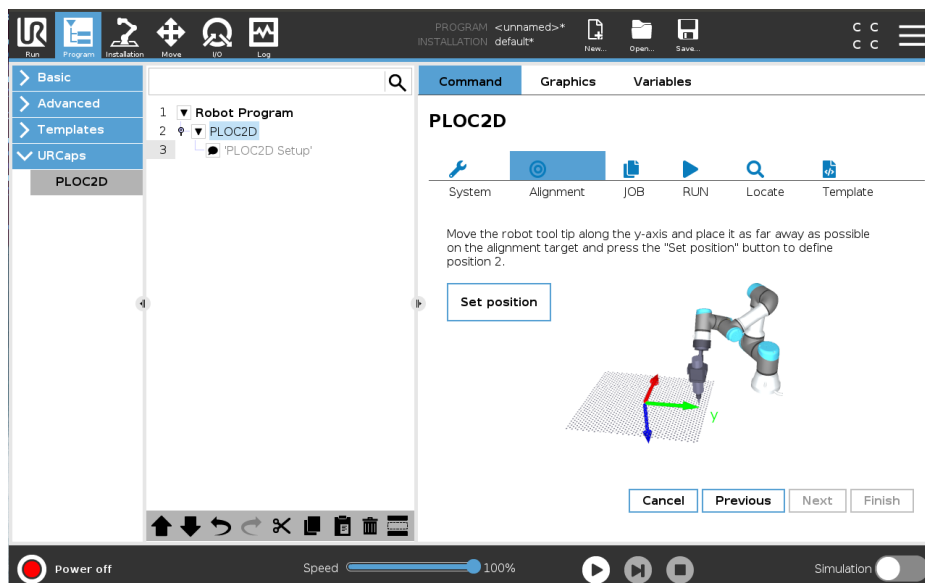

Figure 8: UR Robot user interface, set y-axis position in alignment
7. Move the robot tool tip along the y-axis and position it as far away as possible on the alignment target, see figure 8, page 11.